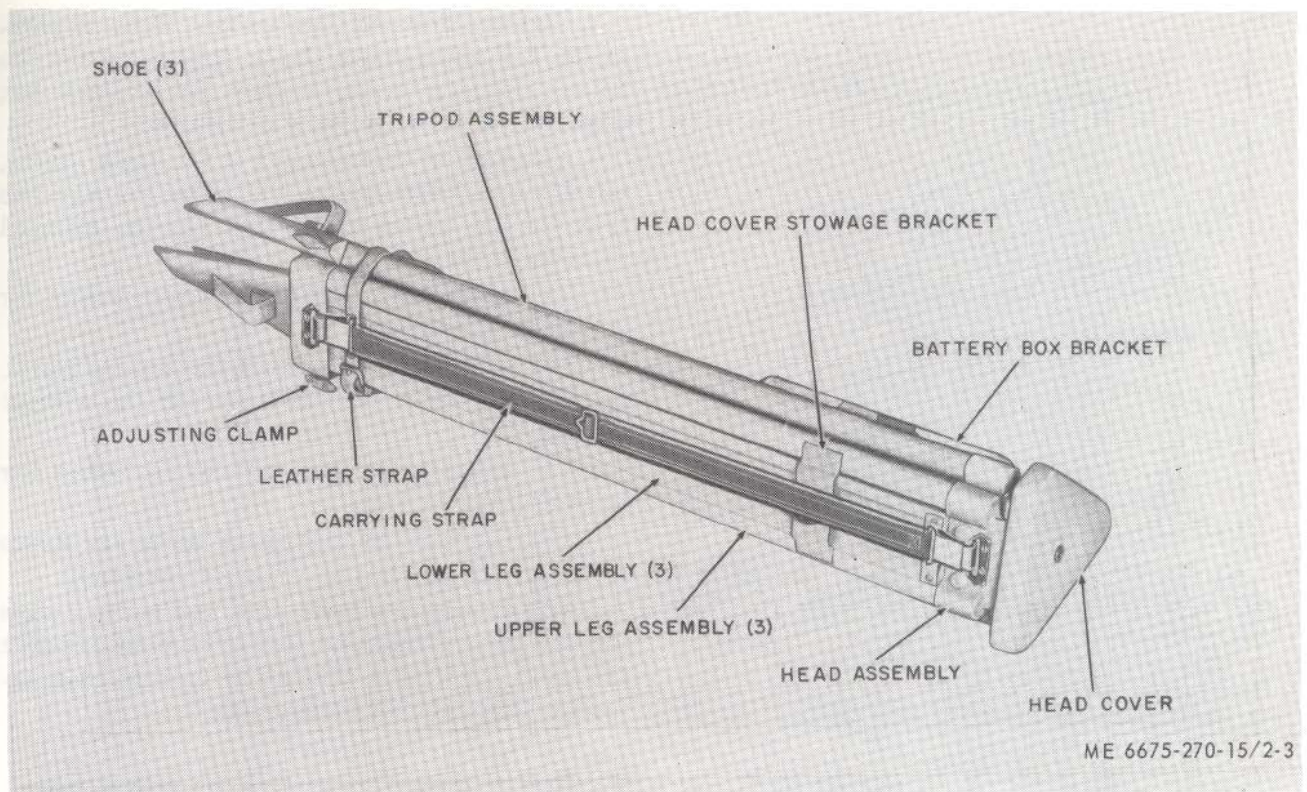

Figure 2-3. Tripod assembly.
(1) Refer to paragraph 2-2 and remove the tripod from its shipping crate.
(2) Inspect the tripod assembly (fig. 2-3) for damaged or missing tripod head cover,